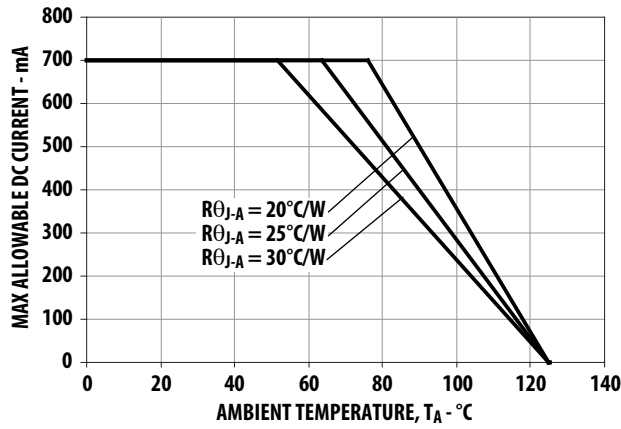
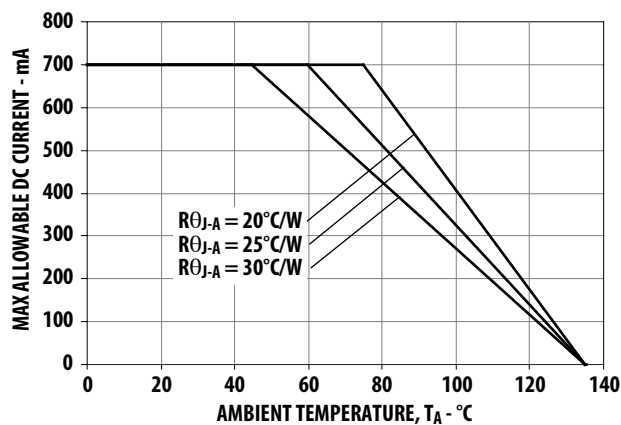

Figure 10. Maximum Forward Current vs. Ambient Temperature.
Figure 22. Maximum Forward Current vs. Ambient Temperature.
1. Derate linearly based on Figure 10 for AllnGaP and Figure 22 for InGaN.